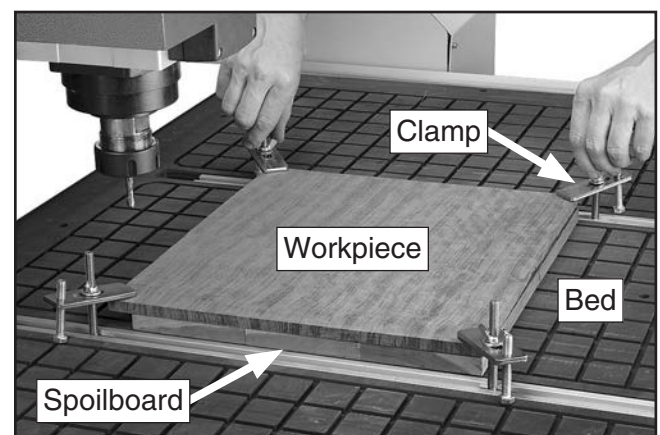

Figure 24. Example of spoilboard clamped to CNC router bed.
1. Clamp surfaced spoilboard to machine bed using included hold-down clamps (see **Figure 24**).